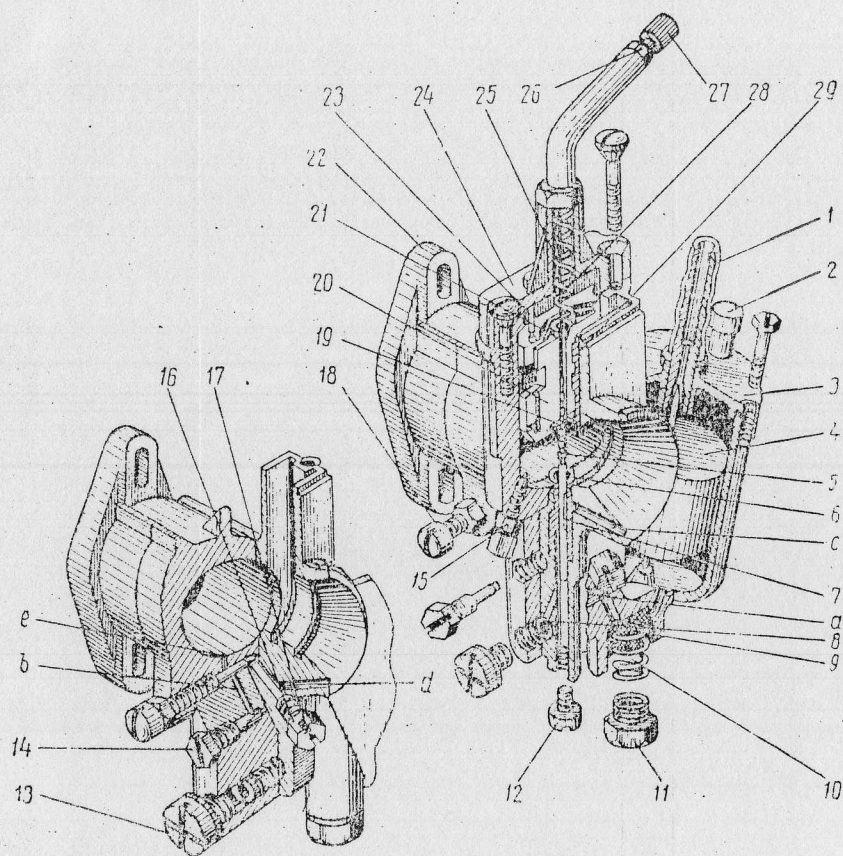

Fig. 2. Carburetter K-301:
**Work of carburetter at medium loads.** As the throttle is raised, more vacuum is formed above the atomizer. The main system is brought in action. It consists of main jet 8, atomizer 7 and metering needle 5. (Fig. 2).
Design of the carburetter is illustrated in Fig. 2.